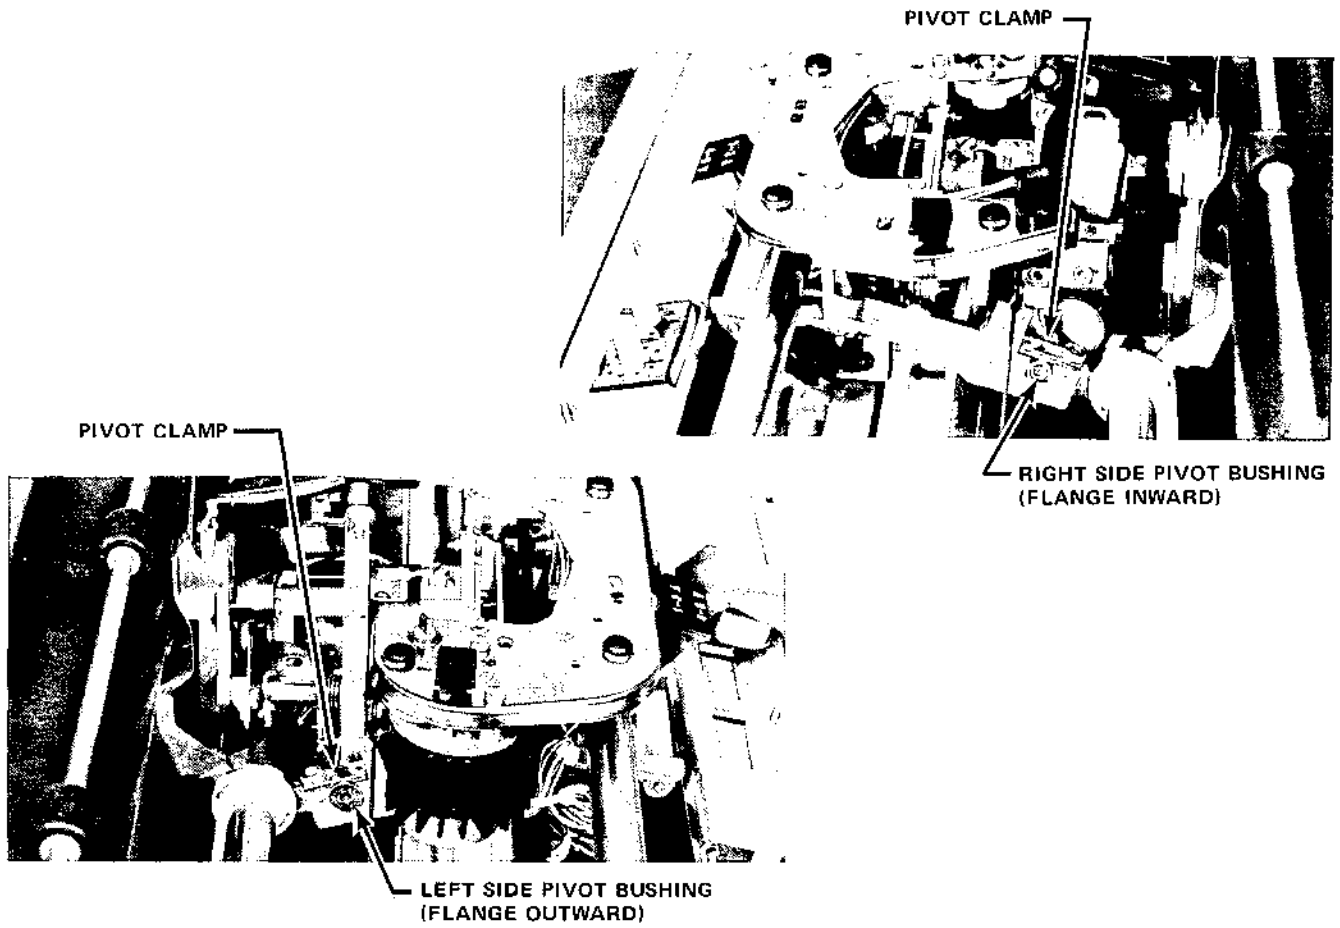
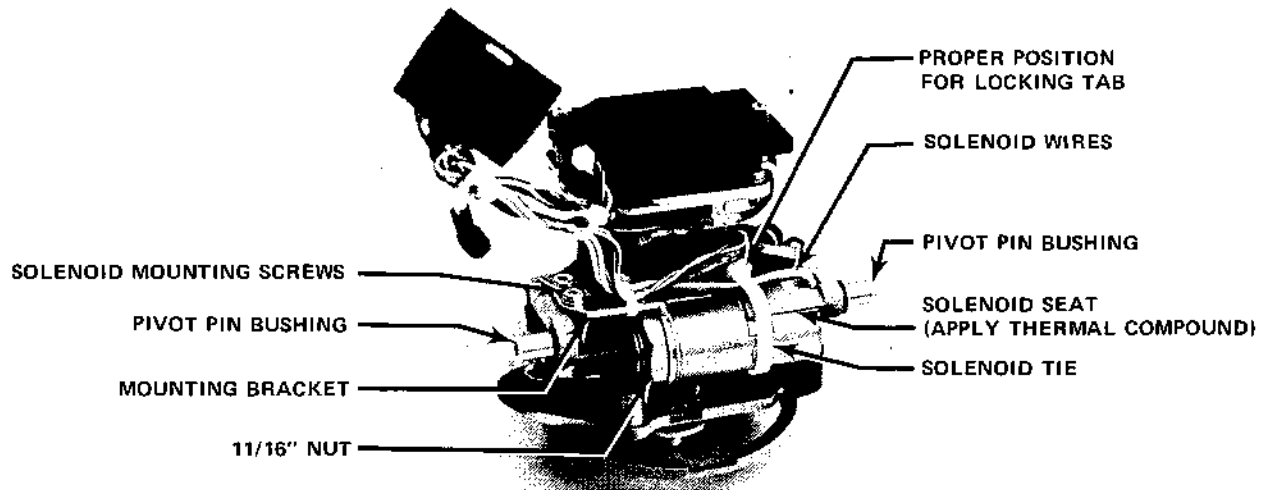

Figure 4-32. ECS CARRIAGE PIVOTS
Figure 4-33. ECS CARRIAGE PIVOT ASSEMBLY
- 8) Loosen the two pivot clamps (Fig. 4-32) holding the pivot assembly in place on the lower carriage assembly, and swing the clamps outward to release the pivot bushings.
- 11) Remove the two screws holding the ECS solenoid mounting bracket to the pivot assembly (Fig. 4-33).
- 12) Cut the cable tie holding the solenoid to the pivot assembly (Fig. 4-33), and remove the solenoid.
- 1) Apply a coating of thermal compound to the solenoid seat on the pivot assembly (Fig. 4-33) where it will contact the solenoid.
- 3) Install the mounting bracket onto the new solenoid assembly. Before tightening the mounting nut, ensure that the bracket extends out from the solenoid in the same direction as the solenoid wires (Fig. 4-33).
- 7) Install and loosely tighten the two screws that hold the solenoid mounting bracket to the pivot frame (Fig. 4-33).
- 8) Install a large cable tie to loosely clamp the solenoid and solenoid wire to the solenoid mounting plate (Fig. 4-33). **DO NOT TIGHTEN THE CABLE TIE SECURELY OR CUT THE TAIL OFF THE CABLE TIE AT THIS TIME. THIS WILL BE DONE AFTER THE SOLENOID HAS BEEN ADJUSTED.**
- 9) Adjust the solenoid as described in subsection 5.12. When adjustment is finished, ensure that the solenoid-clamping cable tie has been tightened, that its tail has been cut off, and that its locking tab is positioned as shown in Figure 4-33.
- 10) Apply a light film of multipurpose grease to the pivot pins on the pivot assembly (Fig. 4-33), and slide the bushings onto the pivot pins. Be sure that the left bushing is installed with its flange outward as shown in Figure 4-32, to prevent interference with the solenoid plunger.
- 11) Lower the pivot assembly onto the lower carriage assembly and loosely tighten the bushing clamp plates (Fig. 4-32).